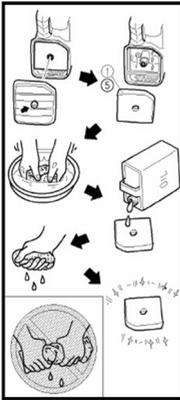

Fig. 1
1. Open the air filter cover (Fig. 1 for models KSB 21i, KSB 35i; Fig. 1, 2 for models KSB 21i S, KSB 31iE S).